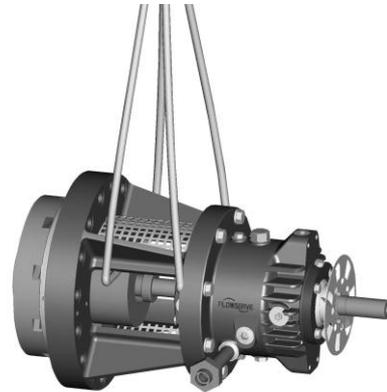

Figure 2
Lift the back pull out unit by the bearing support, see Figure 2.
- The position of the suction and discharge nozzles in the y and z directions (see Figure 2) and